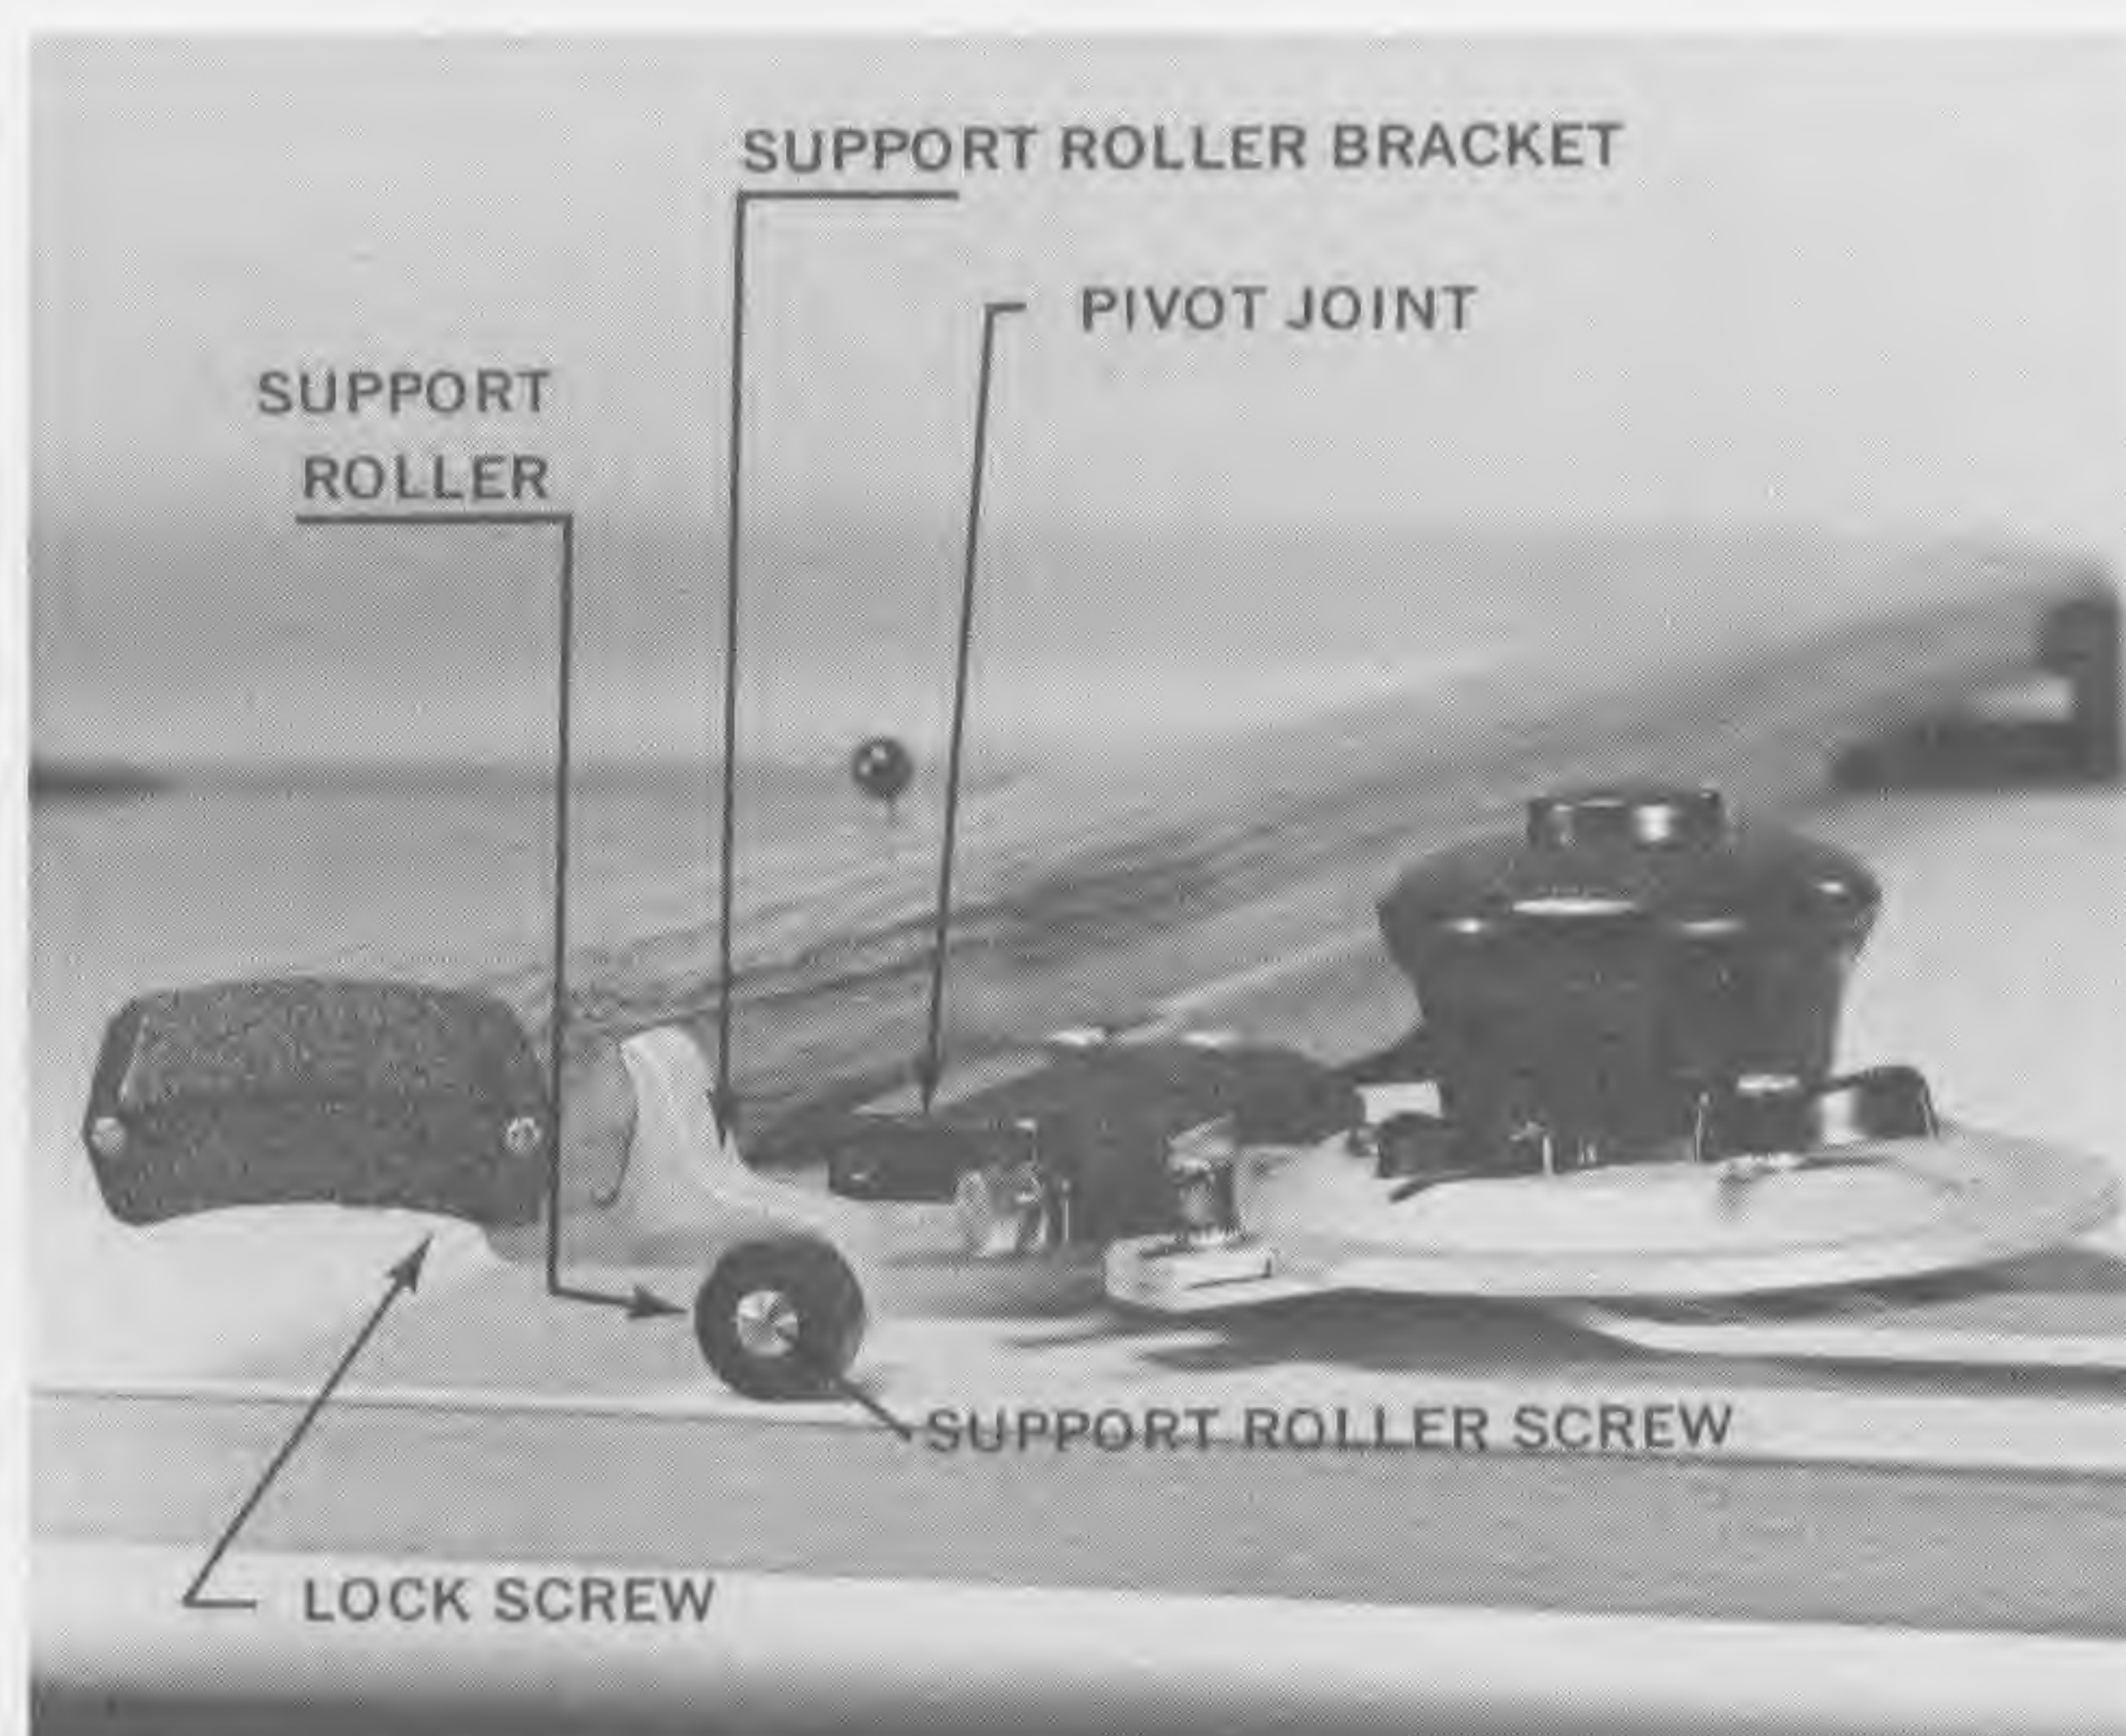

Fig. 17
Support Roller — Elevation (Fig. 17)
The support roller can be adjusted to fit smaller boards or to run on the inside lip of the pencil tray. To adjust, loosen the lock screw (Fig. 17) and move the bracket along the vertical track to the desired location. Be sure the bracket is square with the track and properly seated before tightening the lock screw. Also, check the support roller for proper adjustment (pivot joint should be parallel to the board) if the roller has been reset to run on the pencil tray.
4. **PIVOT JOINT.** Make sure that the pivot joint (Fig. 17, Page 9) stays approximately level as the head moves up and down. If it doesn't, adjust the horizontal track and/or the support roller as described on Page 9.